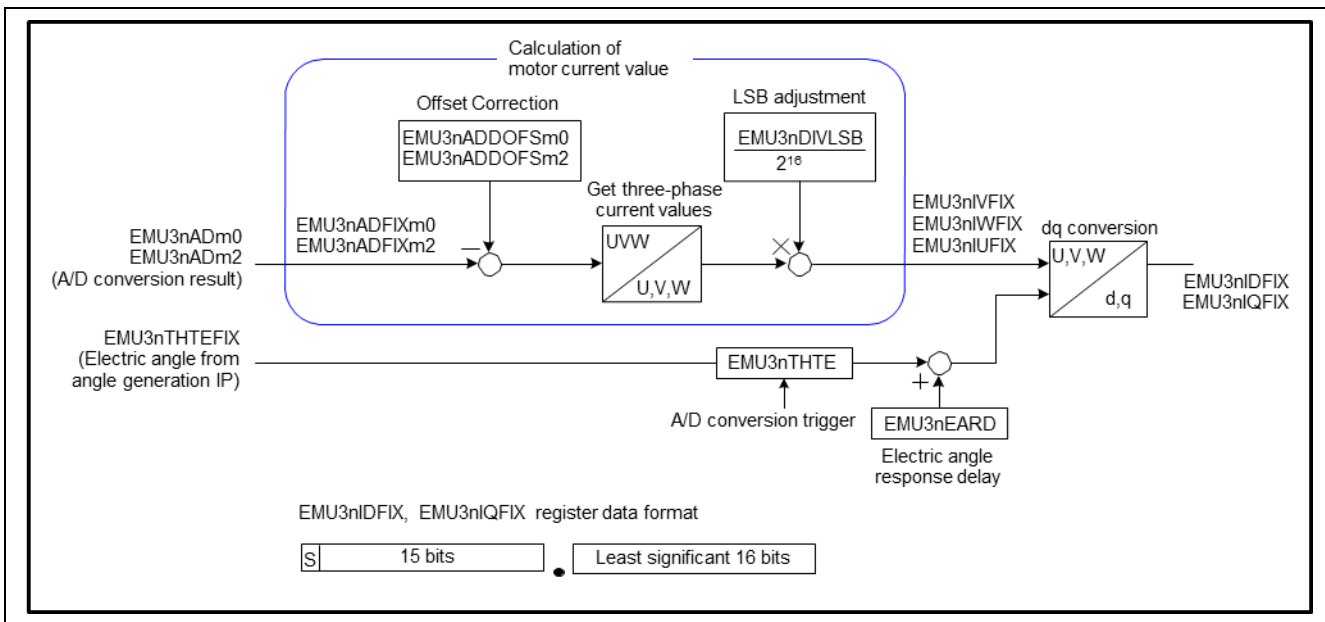

Figure 2-3 Block diagram of input IP
- The input IP finds the current value of the remaining phase from the motor current values of the two phases, and then performs a dq conversion based on the obtained current value and the electric angle. When Bits INIPTRG [1:0] of EMU3nIPTRG register are set to "B'10", the input IP is automatically activated when A/D conversion is completed. The value stored in EMU3nTHTEFIX register is transferred to the input IP when the A/D trigger occurs and stored in EMU3nTHTE register. Figure 2-3 shows a block diagram of the input IP.